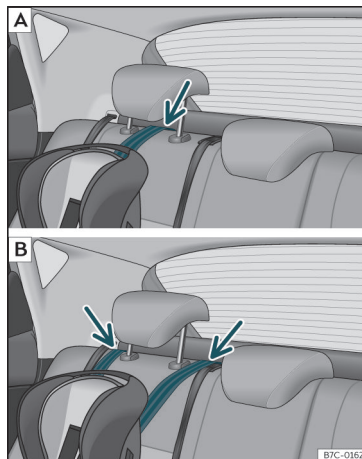

Fig. 27 Rear seats: adjustment and assembly according to the Top Tether belt.
- Place the belt under the head restraint of the back seat»» **Fig. 27** (depending on the instructions of the chair itself, lift or remove the head restraint if necessary).